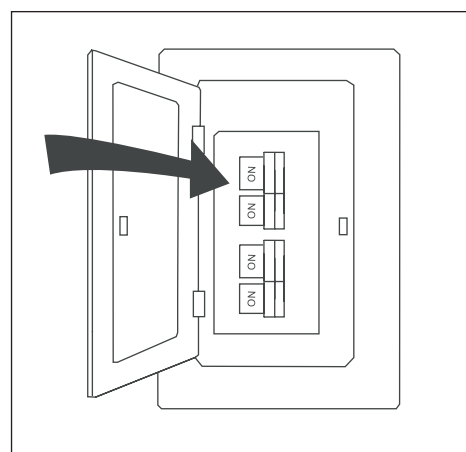

Figure 5.8
- Turn on power to fan at breaker box and the wall switch. Assembly is complete (Figure 5.8).